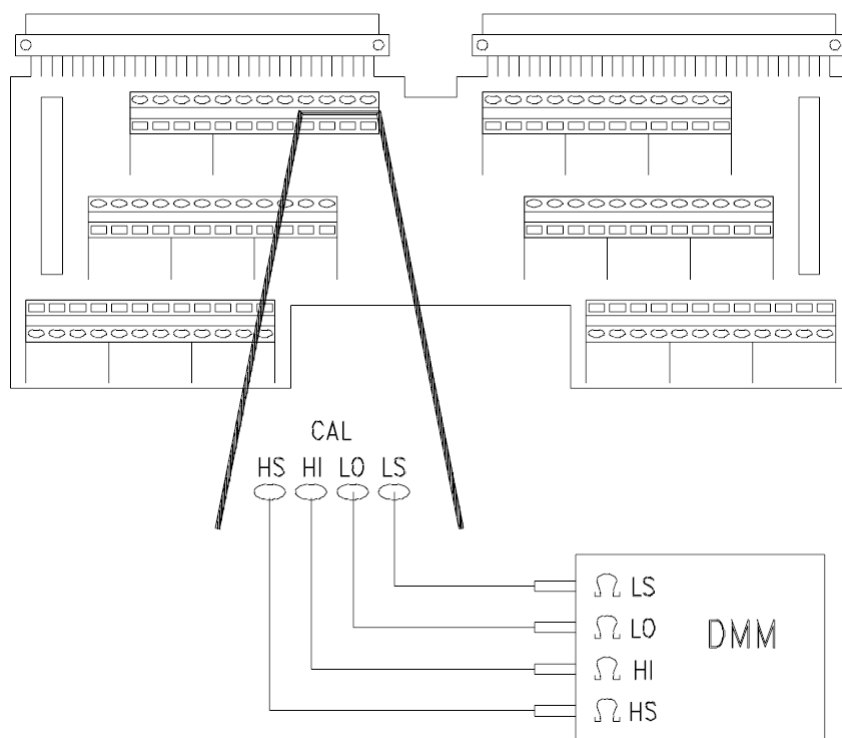

Figure D-4 Resistance Calibration Connections (CAL)
- 1 Make the connections shown in Figure D-4.